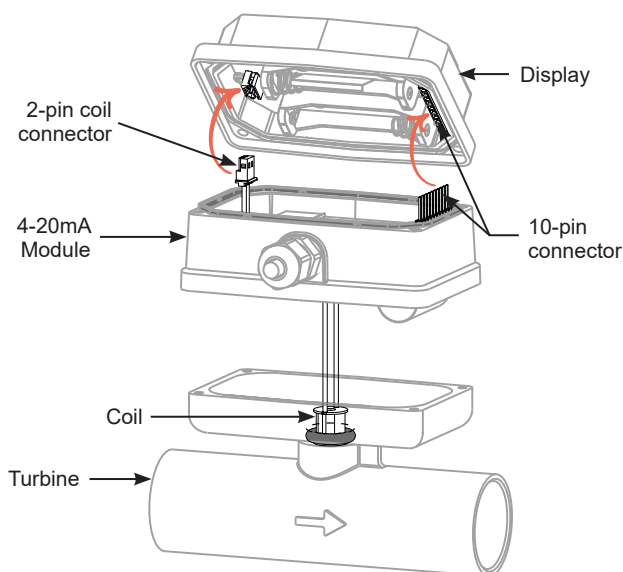

Figure 2
4. Connect the 4-20mA Module to the 10-pin connector located on the back side of the computer electronics (see Figure 2).
5. Reconnect the coil connector to the 2-pin terminal block on the other end of the computer backside. Once the cables are installed on the display, the housing of the display can be placed on top of the 4-20mA module (see Figure 2).